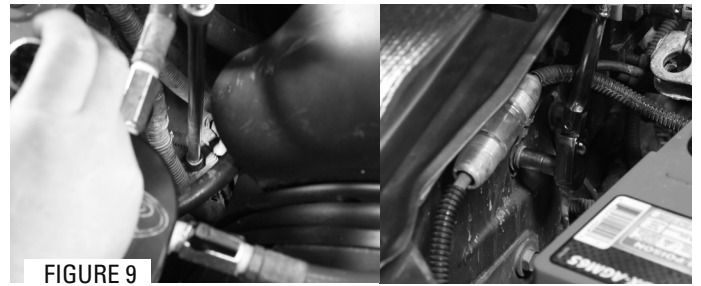

FIGURE 9
- 9** Remove ground cable bolt located on passenger side frame rail using a 13mm socket. Using an 8mm socket, remove ground bolt connecting to passenger side fender (battery hold down may need to be loosened to access the passenger fender bolt ground). (Figure 9)